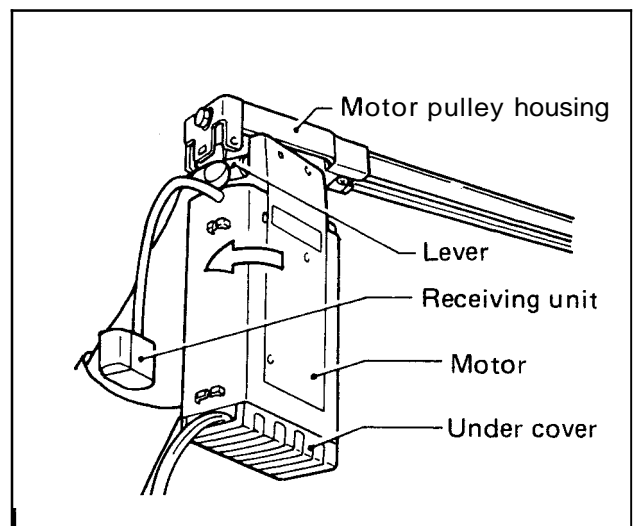
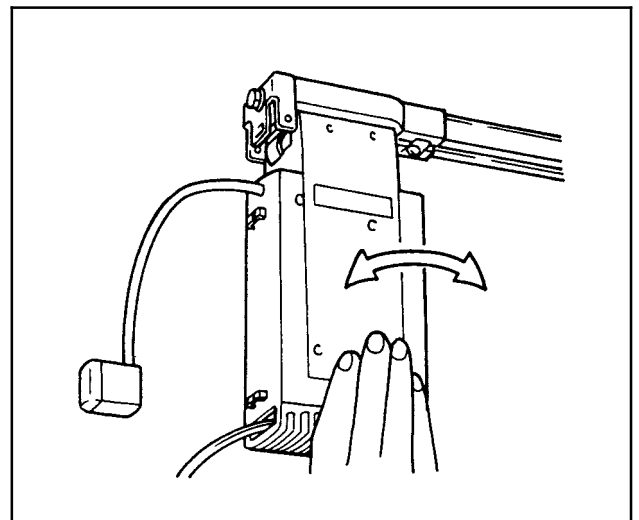

Fig. 28
Fig. 29
1. Holding the motor at 45 degree angle to the track, push down on the lever on the motor, insert the shaft into the hole in the motor gear and turn the motor parallel to the track. (Fig. 28) Release the lever and the motor will lock into the motor pulley housing. Without pushing the lever, gently try to twist the motor to ensure it is securely attached. (Fig. 29) some play will be felt, however the motor should not release.